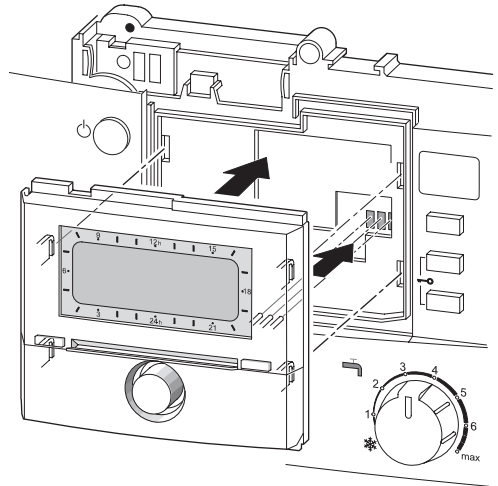

Fig. 4 Insert TD 200 in the guides
- ▶ Installation of the TD 200 automatically creates the bus connection via the three contacts (Figure 4).